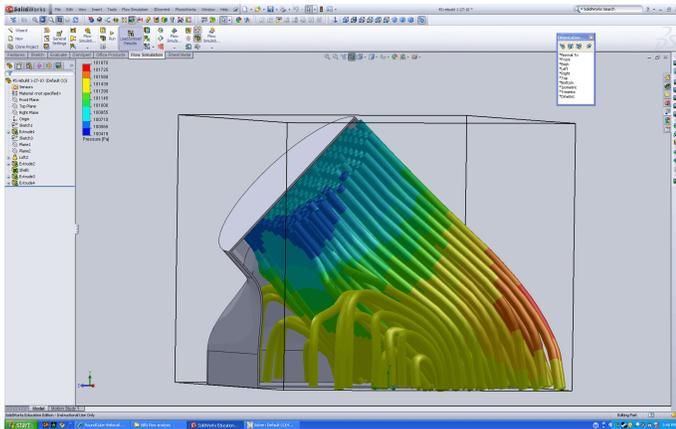

Figure 1. Flow without Deflector
3. Each kit comes with the air duct made from composites to shapes verified by computerized flow analysis (see Fig. 1 and 2) and flow bench testing. If there is a flow diverter in your duct it is there for a reason, please do not remove it.